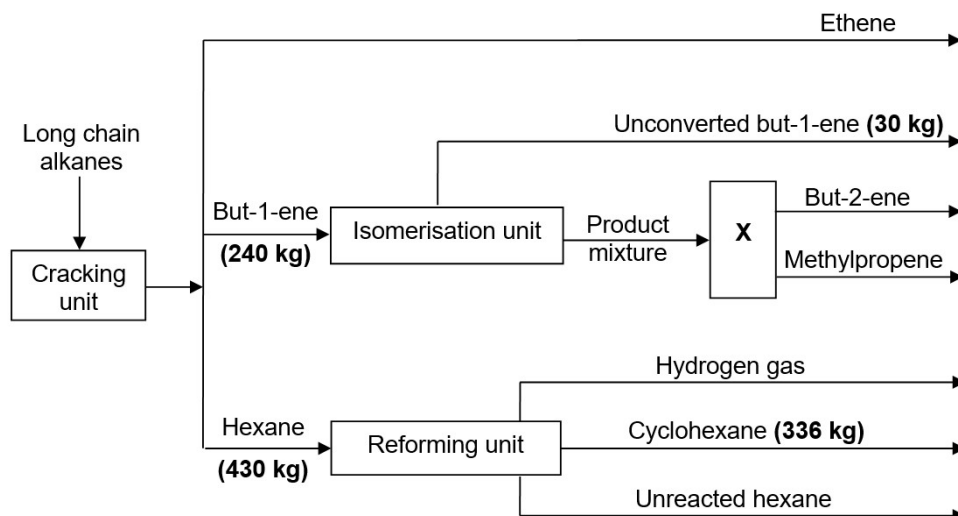

Fig. 9.4
The flow diagram in Fig. 9.4 shows how different processing units are involved in the making of some useful substances in a petrochemical plant.
- (c) (i) Refer to the isomerisation unit in Fig. 9.4.
The mass ratio of but-2-ene to methylpropene in the product mixture is found to be 1:1. Using this information and other information from the flow diagram in Fig. 9.4, calculate the mass of but-2-ene and methylpropene produced by the isomerisation unit.
- (d) Refer to the reforming unit in the flow diagram in Fig. 9.4. Show by calculation that the mass of hydrogen gas produced by the unit is 8 kg.